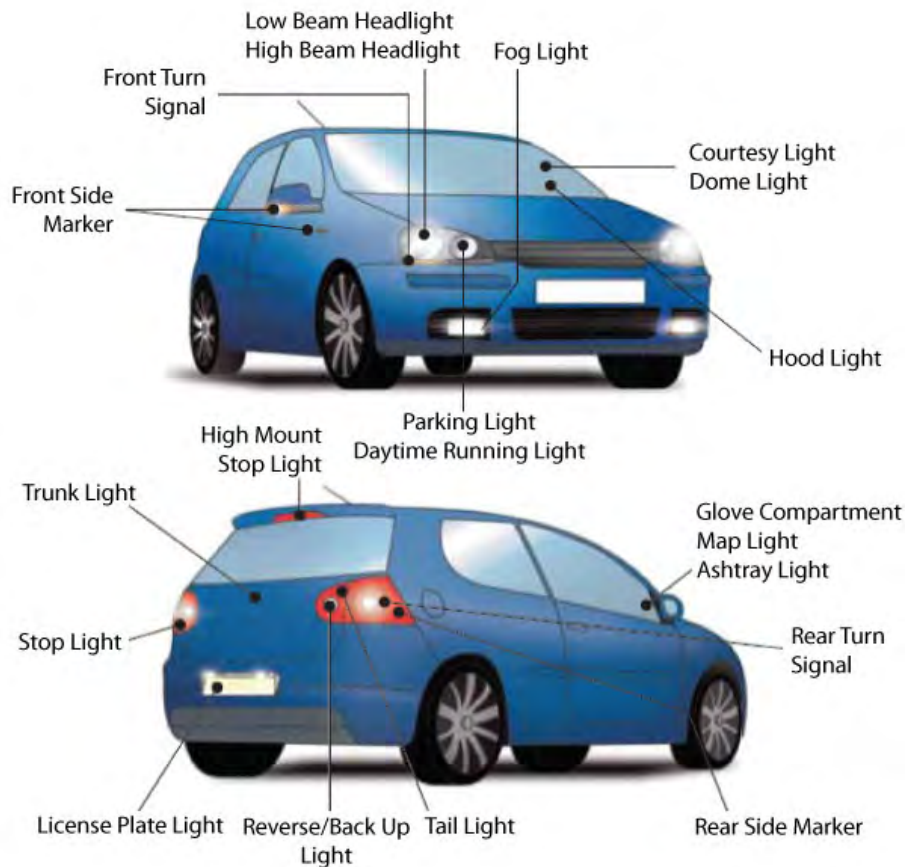

Figure 3.5: *Vehicle lights*
4. **Regulator:** The alternator regulator limits the output voltage from the alternator and prevents the battery from being overcharged. It also protects the electrical equipment from excessive voltage. Figure 3.5 shows an exploded view of the alternator.
All these lights must be maintained in good working conditions including proper alignment. In addition to obligatory lights, vehicles owners often fit supplementary lights to fulfil other purposes. These are mostly interior lights which include instrument panel lights, various warning and indicator lights and courtesy lights which turn on when the door is opened. The various lights in a typical automobile are shown in Figure 3.5 which shows vehicle lights.